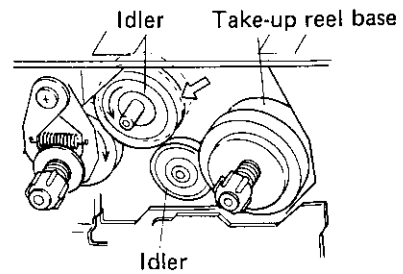

Fig. 5-8 REW Operation
3. When the REW key is pushed, rotation of idler A is retransmitted directly to the supply reel base, and the tape is wound at high speed (see Fig. 5-8).